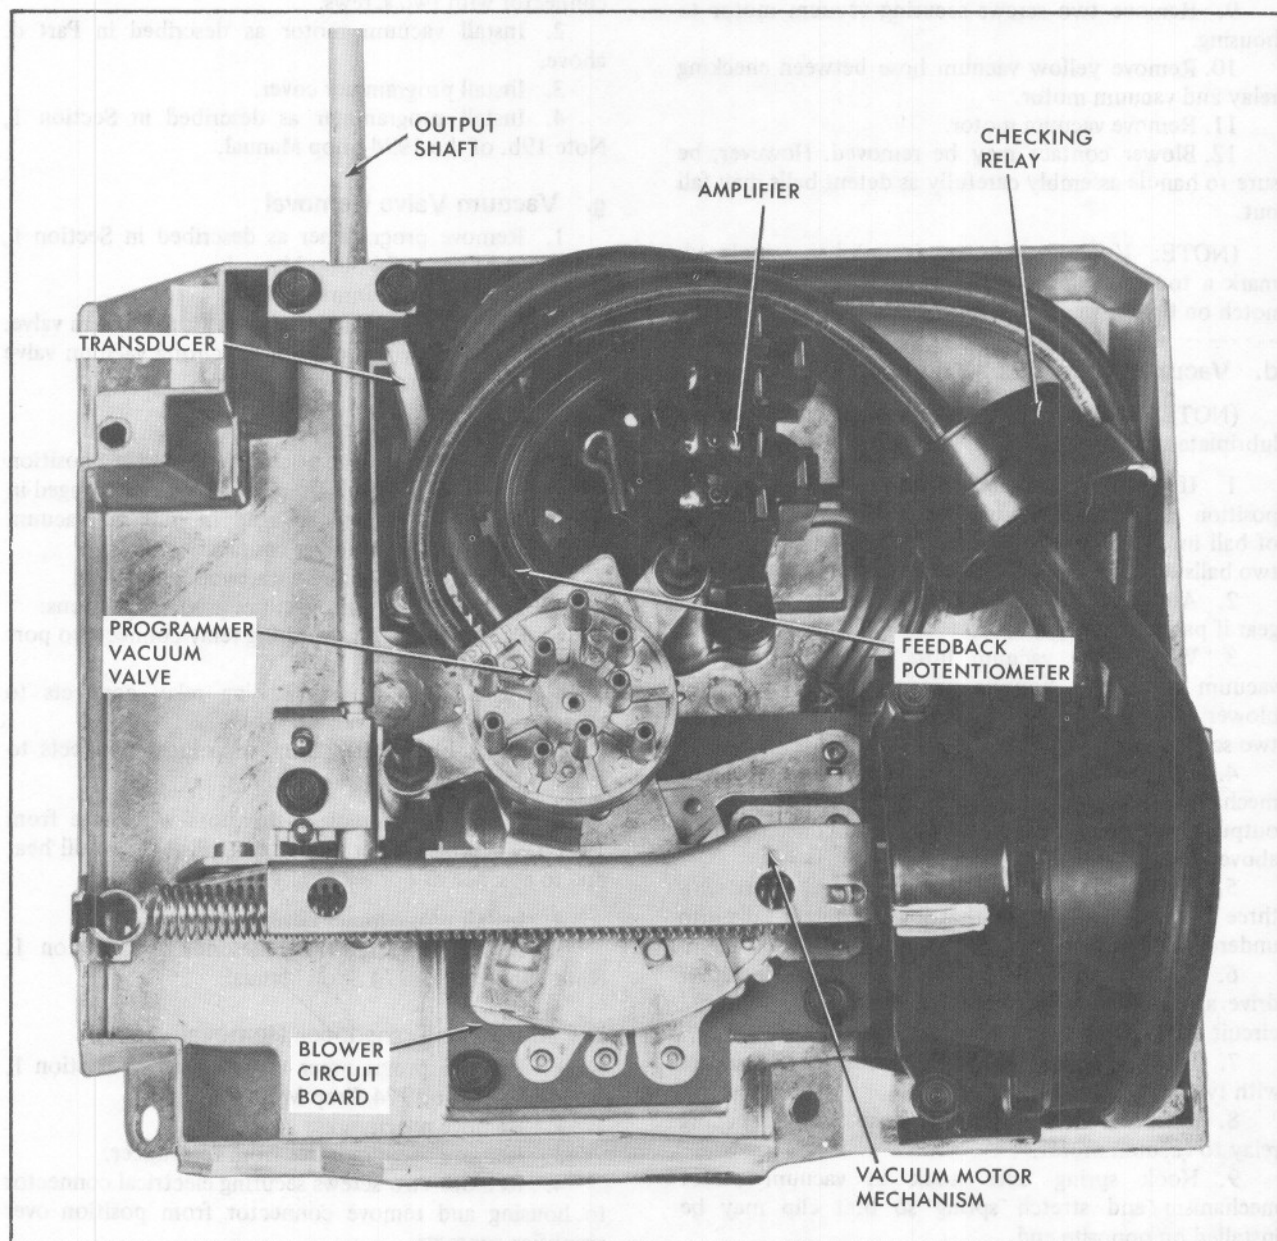

Fig. 1-17 MK II ATC Programmer Components
- a. White hose from transducer wraps around vacuum motor and connects to port #2, Fig. 1-17.
- b. Yellow hose from vacuum motor connects to remaining port (#1) on vacuum motor side of relay, Fig. 1-17.
- c. Purple hose from "Purp" port of vacuum valve connects to center port on amplifier side of relay, Fig. 1-17.
- d. Remaining black hose from center port of vacuum valve connects to outside port on amplifier side of relay, Fig. 1-17.
- a. Purple hose from checking relay connects to port marked "Purp", Fig. 1-17.
- b. Black hose from checking relay connects to center port of vacuum valve, Fig. 1-17.
- c. Small black hose from transducer connects to remaining port of vacuum valve, Fig. 1-17.